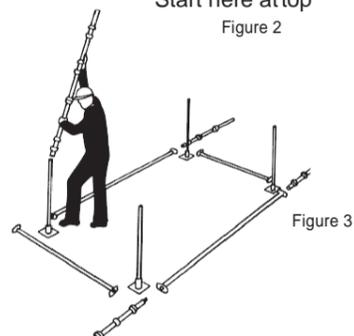

Figure 3
**4** Lay out the Adjustable Bases, Ledgers and Transoms for the first bay in their approximate positions. Then insert an Adjustable Base into each of the first pair of Standards and position Adjustable Bases onto the soleplates. Refer Figure 3